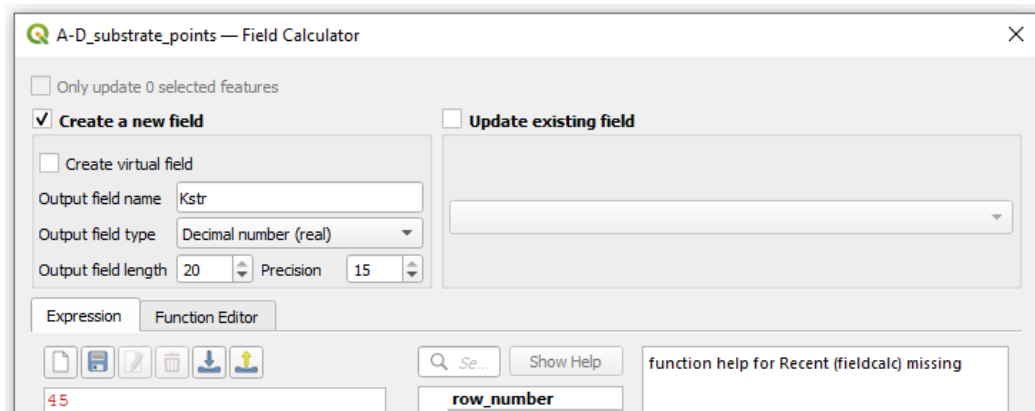

Figure 8: Add roughness value to points.
- Similar as for the x and y coordinates, create a new field to assign a roughness value to every point (Figure 8).